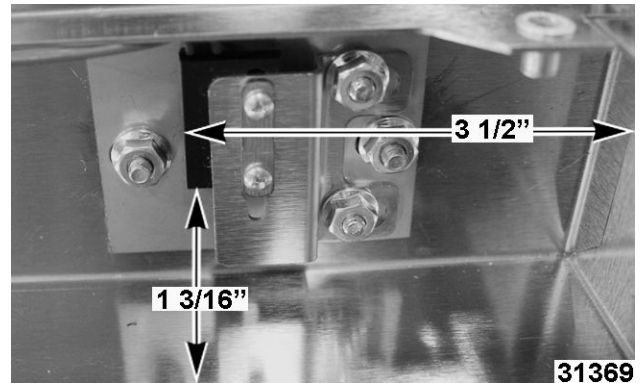

Fig. 117
- C. Loosen screws and nuts to adjust and obtain dimensions as shown in Fig. 117.